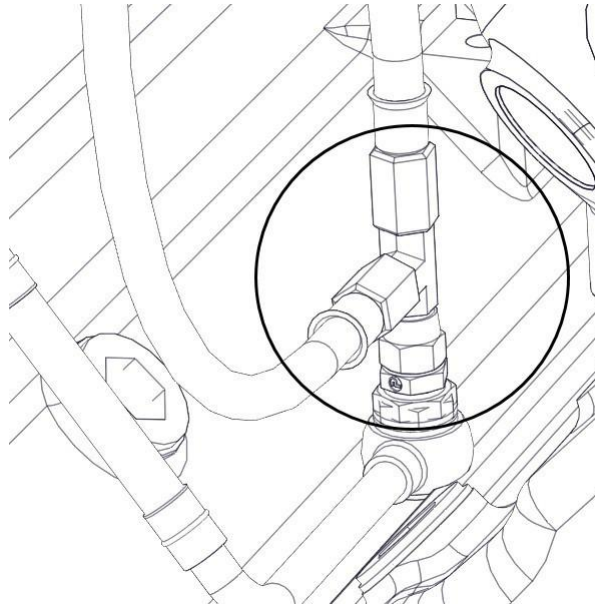

Figure 22. Turbocharger Oil Supply lines
1. Remove both turbo oil supply lines from the oil inlet valve. (Refer to Figure22.)